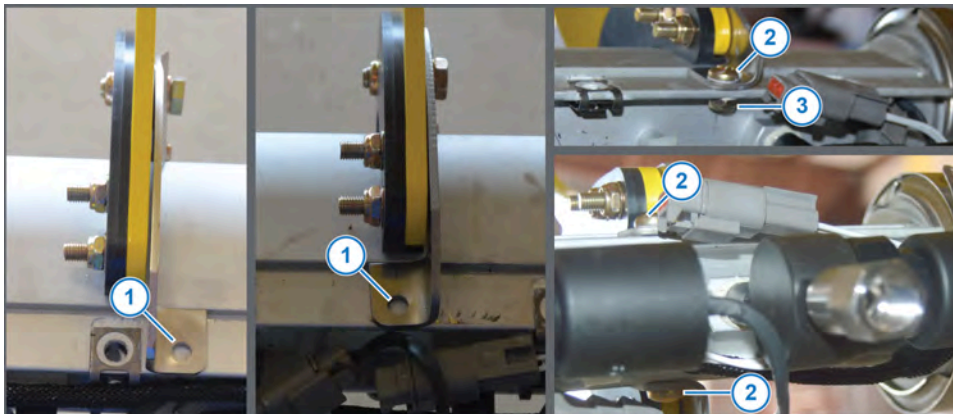

Figure 15: Boom Hanger Installation
- 31.** Use the hole in the boom hanger tab assembly (Figure 15, Item 1) as a guide and match drill the 1/4-inch holes in the top and bottom of the boom for each boom hanger tab assembly.
- 32.** Install the 1/4-28 x 5/8 screw (Figure 15, Item 2) and nut (Figure 15, Item 3) to the top and boom of the boom to attach the boom hanger tab assembly.
See Figure 15